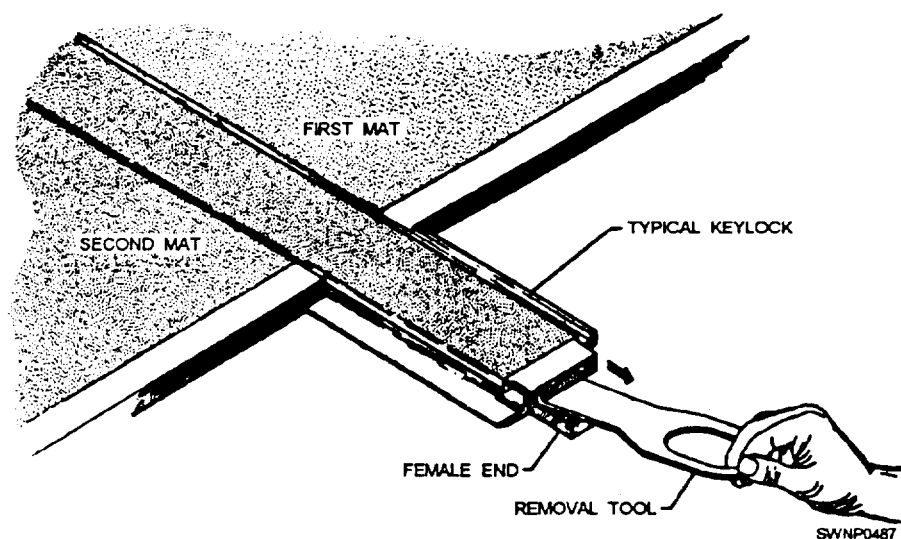

Figure 11-35.—Typical keylock removal tool.
2. Insert the prong of the removal tool under the turned down lip of the female connector and slide the keylock from its position, as shown in figure 11-35.
1. Remove typical keylocks by loosening the socket head screw at the first joint until it is free of the lower thread (about 7/16 inch). Do not remove further as this screw is self-retaining, and disassembly and future assembly are accomplished from this position. If the exposed end of the typical keylock is a cut end, that particular section must be pried out or pulled out. If the female end is exposed, the section may be removed using the special removal tool. (See fig. 11-35.)
5. Disassembly of a mat row may proceed from the end with the overlapping mat. Remove the locking bar from the adjacent mat by inserting a bent rod or wire into the hole in the locking bar and pulling it straight out. (See fig. 11-35.) The most efficient procedure requires disassembly in reverse order of assembly. Therefore, starter keylocks will be the last component removed from the runway. Remove the starter keylocks by removing the socket head screws from each adjoining starter keylock. Insert the connector bar in the starter keylock just removed to the second hole (the bar will protrude 1 inch), and tighten the screw. Replace and tighten the screw in the adjacent keylock.
In a SATS system where a guide rail is used, portions of the installation, other than the runway, may be disassembled in the same manner as described previously. However, the presence of the guide rail prevents the removal of matting other than from one end. Runway aprons that do not include guide rail sections are an exception. These portions may be removed at any convenient time after the backfill has been removed. Removal of the runway matting and guide rail must start at the same end at which the runway was completed. In addition to the removal of locking bars between the mats, the locking bars connecting the mats to the guide rail must also be removed. Removal of guide rail locking bars is accomplished in the same manner as for mats. (See fig. 11-35.)